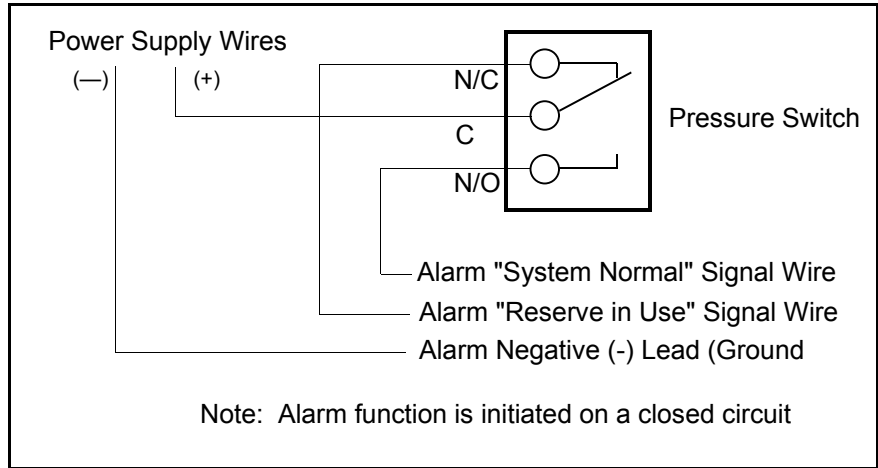

FIGURE 9 115 VAC Power
1. The power supply will be determined by the remote alarm operating voltage. If the remote alarm is designed for 115 VAC service then the existing 115 VAC power source can be utilized directly. (Figure 9)
If the remote alarm is designed for other than the existing AC power source, then it is necessary to install a transformer in the system to provide the proper operating voltage. (Figure 9)